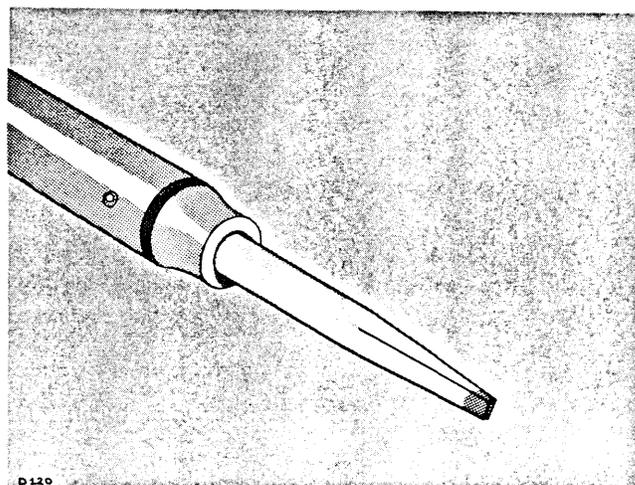

Fig. 4-1. Soldering iron tip properly shaped and tinned.
Because of the shape of the terminals on the ceramic strips it is advisable to use a wedge-shaped tip on your soldering iron when you are installing or removing parts from the strips. Fig. 4-1 will show you the correct shape for the tip of the soldering iron. Be sure to file smooth all surfaces of the iron tip to be tinned. This prevents solder from building up on rough spots where it will quickly oxidize.
2. Prepare the tip of the iron as shown in Fig. 4-1.